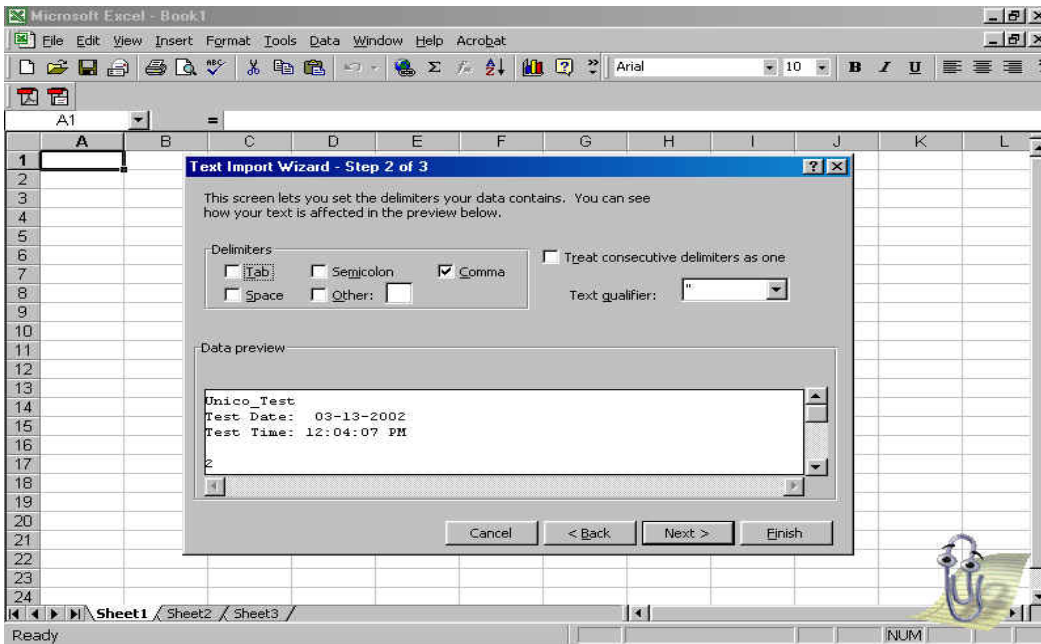

Figure-42 Excel Text
Step 4: Uncheck the **Tab** delimiter and select **Comma** delimiter as shown in Figure-42, then click the **Next** button.